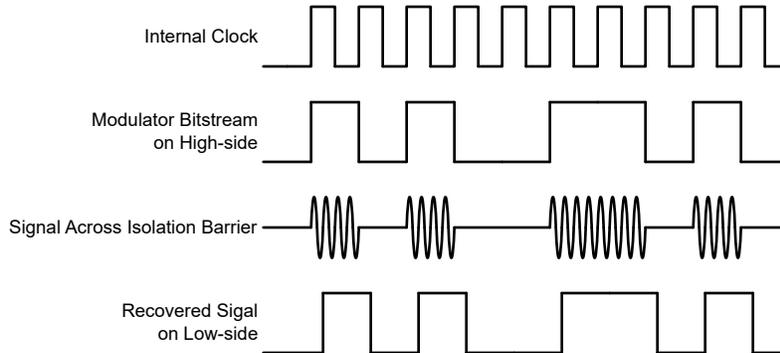

Figure 7-1. OOK-Based Modulation Scheme
As shown in Figure 7-1, the AMC0x30R-Q1 uses an on-off keying (OOK) modulation scheme to transmit the modulator output bitstream across the SiO₂-based isolation barrier. The transmit driver (TX) is illustrated in the Functional Block Diagram. TX transmits an internally generated, high-frequency carrier across the isolation barrier to represent a digital one. However, TX does not send a signal to represent a digital zero. The nominal frequency of the carrier used inside the AMC0x30R-Q1 is 480MHz.